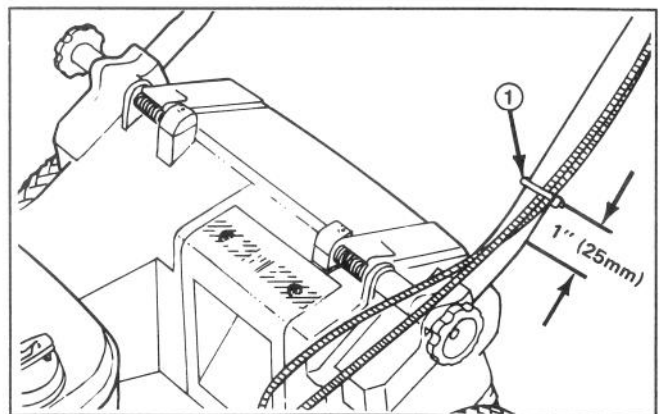

Figure 3
6. Use cable tie to secure cable(s) to lower side of left hand tube (Fig. 3). Cable tie should be positioned 1" from bend in handle. See Figure 3 for correct cable placement. Cut excess length from end of cable tie on lower left handle.